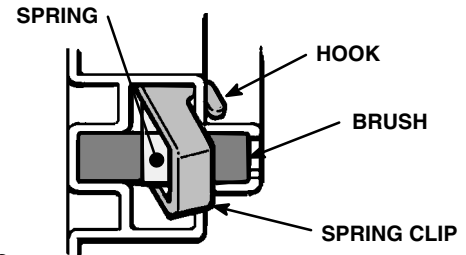

Fig 23-2
2. Push in the spring clip to release its hooks from the brush holder. Pull out the spring clip. Refer to Fig 23-2.